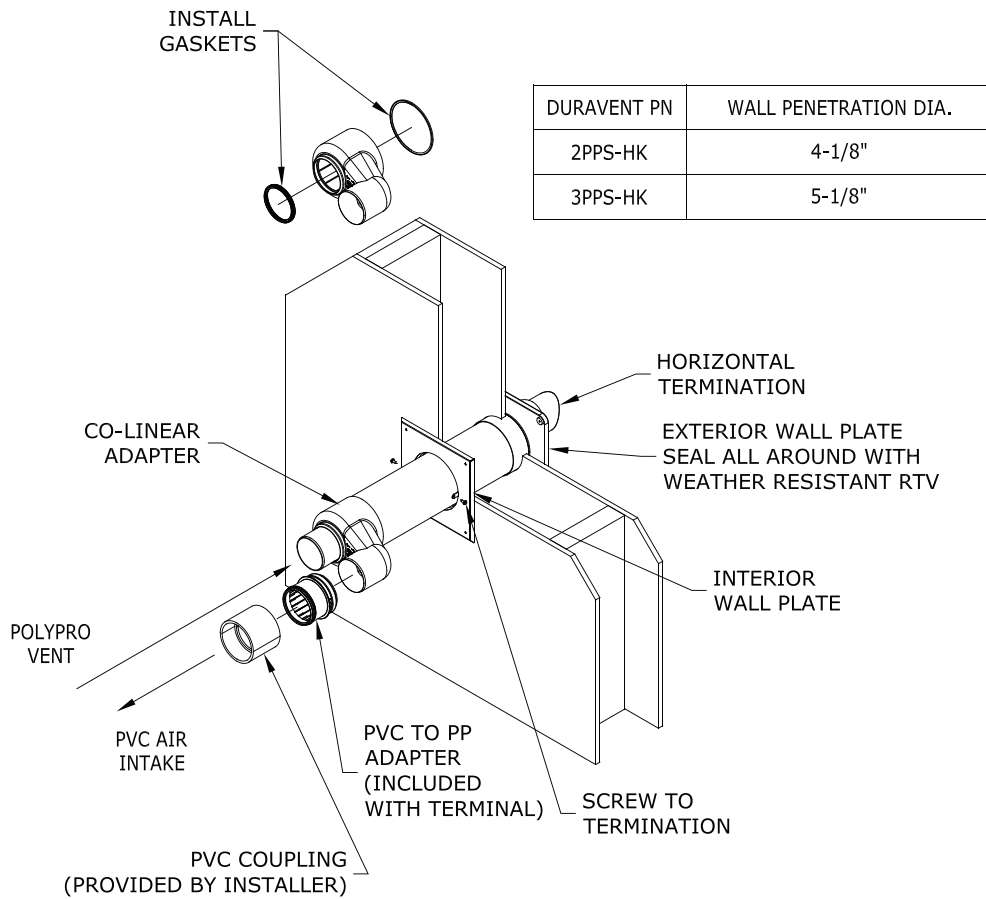

Figure 7.39: Installation of DuraVent PolyPro Concentric Vent Terminal Through Sidewall
6. Installation of DuraVent PolyPro Horizontal Concentric Vent Terminal (Terminal Option D) - Install PolyPro Horizontal Concentric Termination Kit #2PPS-HK or #3PPS-HK (Figure 7.39) as follows: